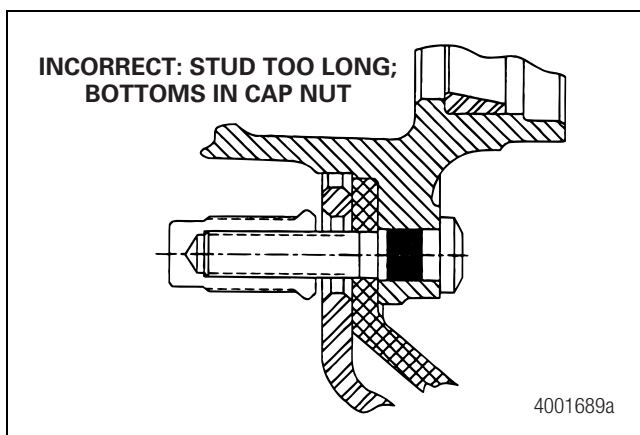
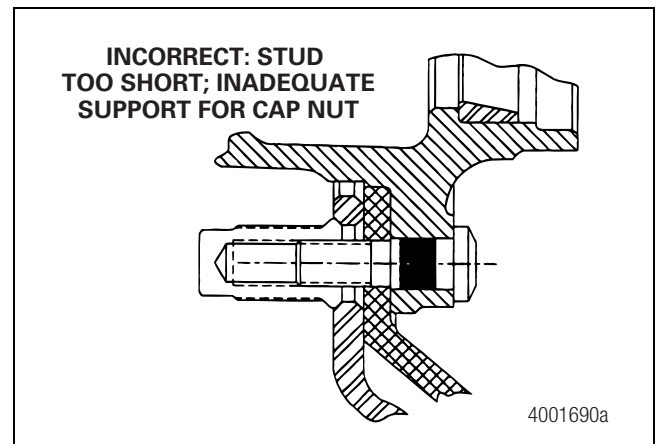

Figure 6.29
Figure 6.30
- B. Figure 6.29 and Figure 6.30 show incorrect stand-out.